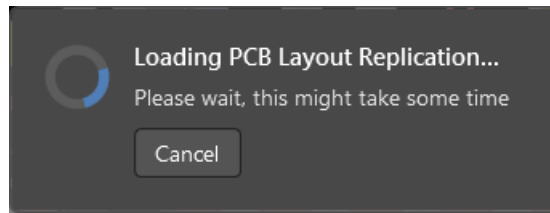

Figure 5. PCB Replication preparation
20. Wait until the tool prepares the *PCB Layout Replication* dialog, Figure 5.